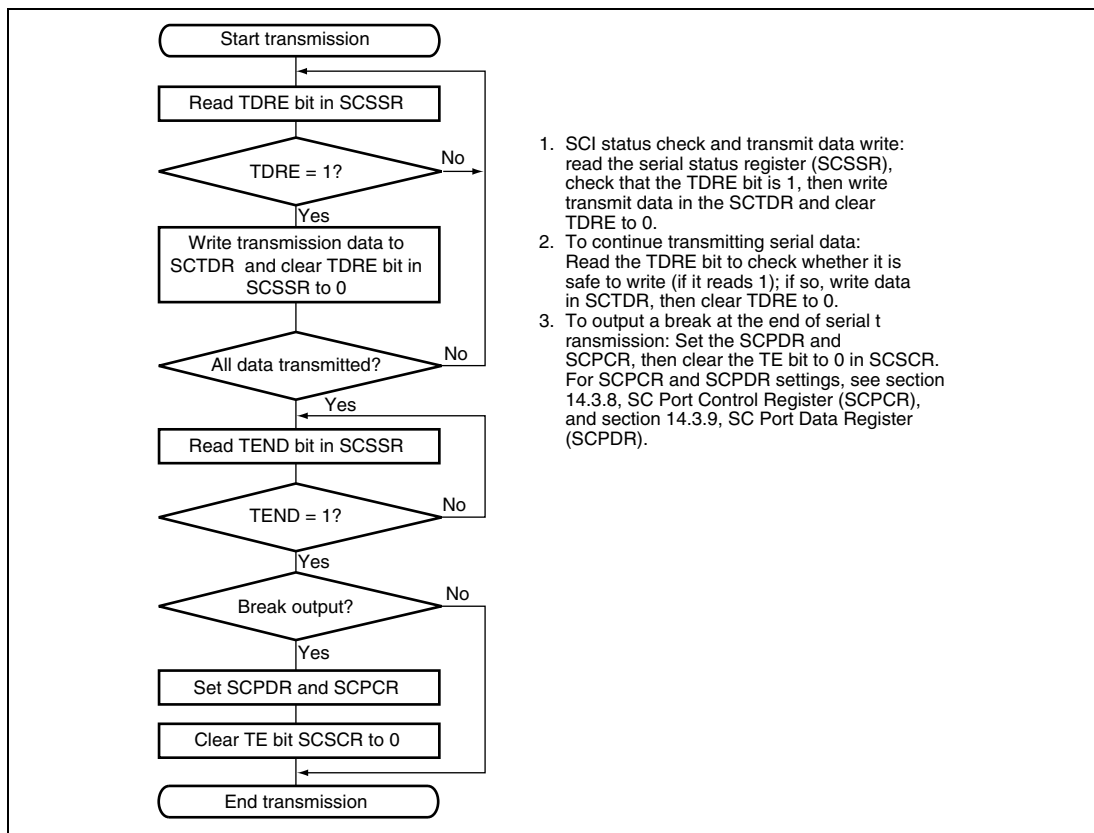

**Figure 14.8 Sample Flowchart for Transmitting Serial Data**
**Transmitting Serial Data (Asynchronous Mode):** Figure 14.8 shows a sample flowchart for transmitting serial data. Serial data transmission should be carried out in the following procedure after setting the SCI in a transmission-enabled state.